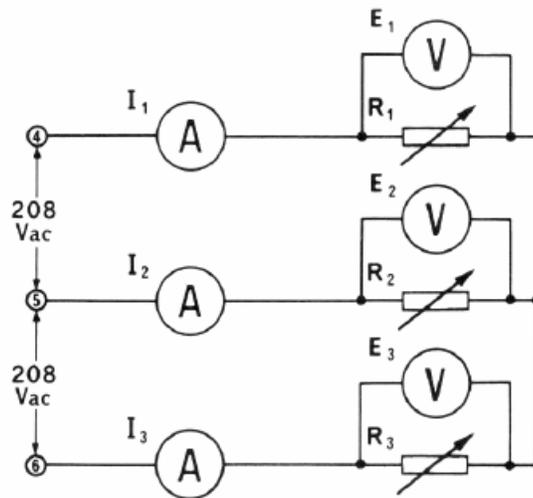

Figure 02-2
- 7) Construct a “Y”-connected load similar to one depicted in Figure 02-2 but without Any meters. Connect the load’s neutral to the neutral of PS through the ammeter. Set three load resistances to 600 G and apply an input voltage of approximately 30 V. The current through the neutral wire must be approximately zero since the load is balanced. Next, unbalance the load by inserting a 1200 G resistor in parallel to one of the load resistors. Do you observe any changes in the value of current?